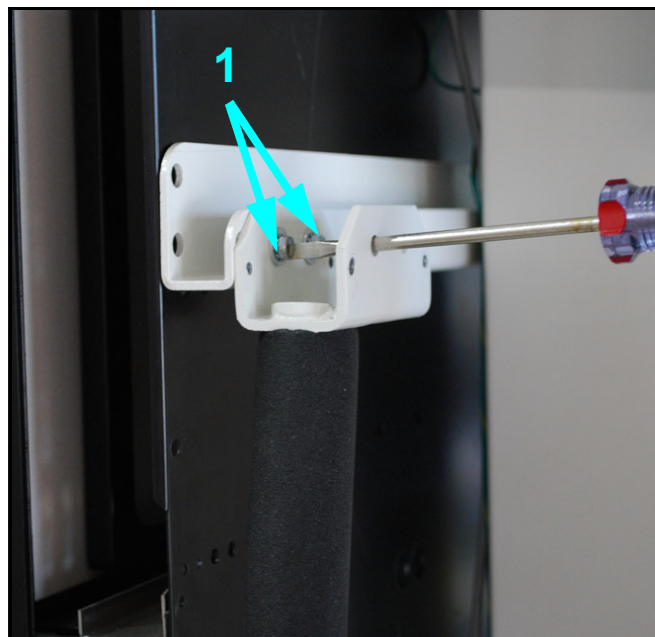

Figure 5-19. Brake Handle
- 18** Screw the brake handle (1 in Figure 5-19) to the right side of the back of the bottom bucky bracket and put it aside.